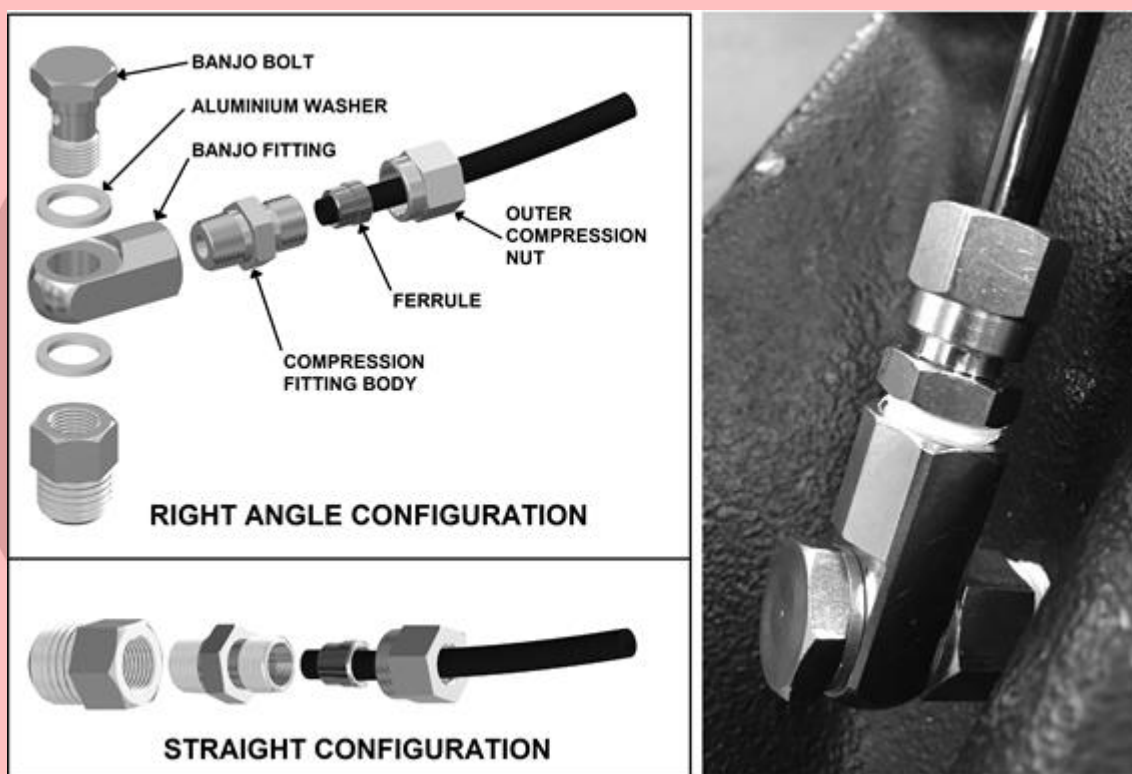

Figure 14. Air Locker bulkhead fitting assembly (170114)
- ☐ Insert the outer compression nut and ferrule over the air line. Ferrule should be oriented as per Figure 14.
- NOTE:** When right angle routing of the tube is not required, screw the compression fitting body straight into the bulkhead fitting body (Figure 14).
- ☐ Consulting the wiring diagram (Fig. 13.) for wire colours, and the switch terminal illustration (Fig. 14.), plug each of the female spade terminals onto their appropriate switch terminal.